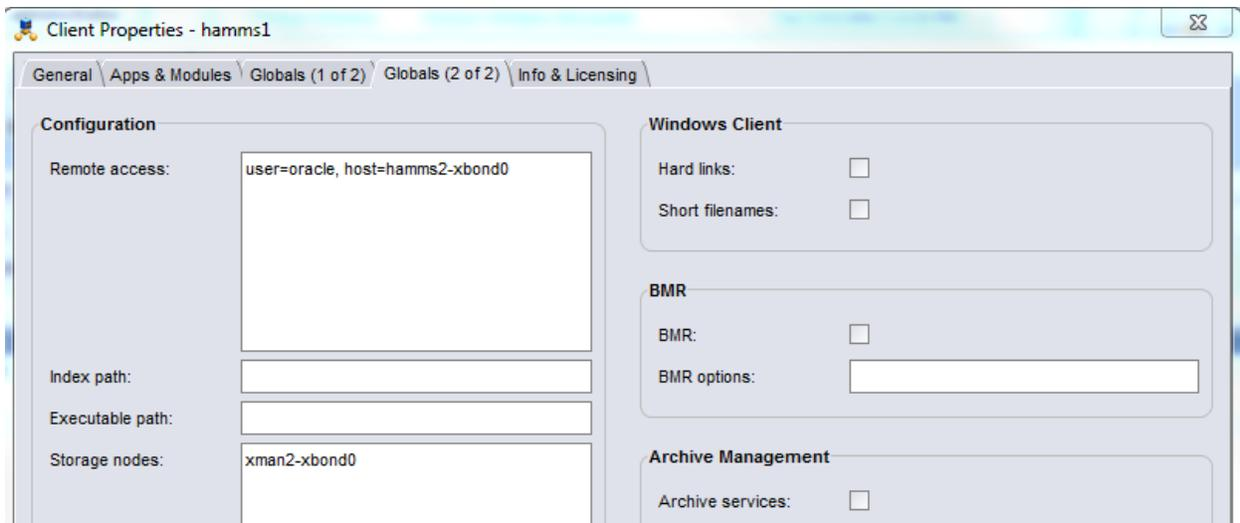

Figure 20: NetWorker Client Properties - Globals (2 of 2) tab, modified for private network.
- 6) In the Storage nodes field (this is the Storage Node Affinity list) populate the Storage Node to be used as the primary Storage Node when backing up this host - xman2-xbond0 in this example. (See figure 20):